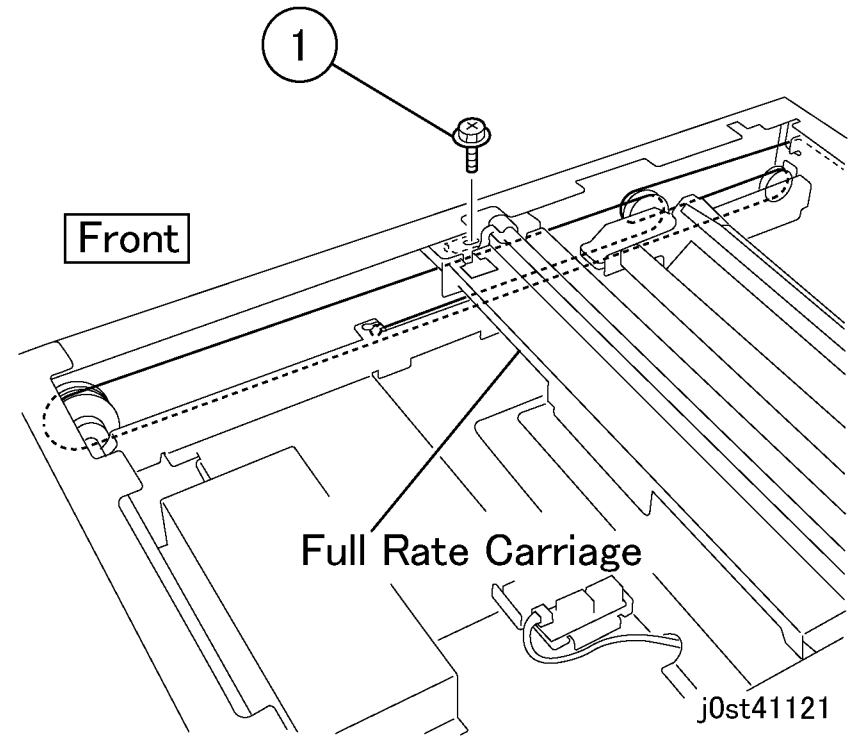

Figure 11 Installing the Carriage Cable at the front
4. Fix the Full Rate Carriage at the front side (Figure 11).